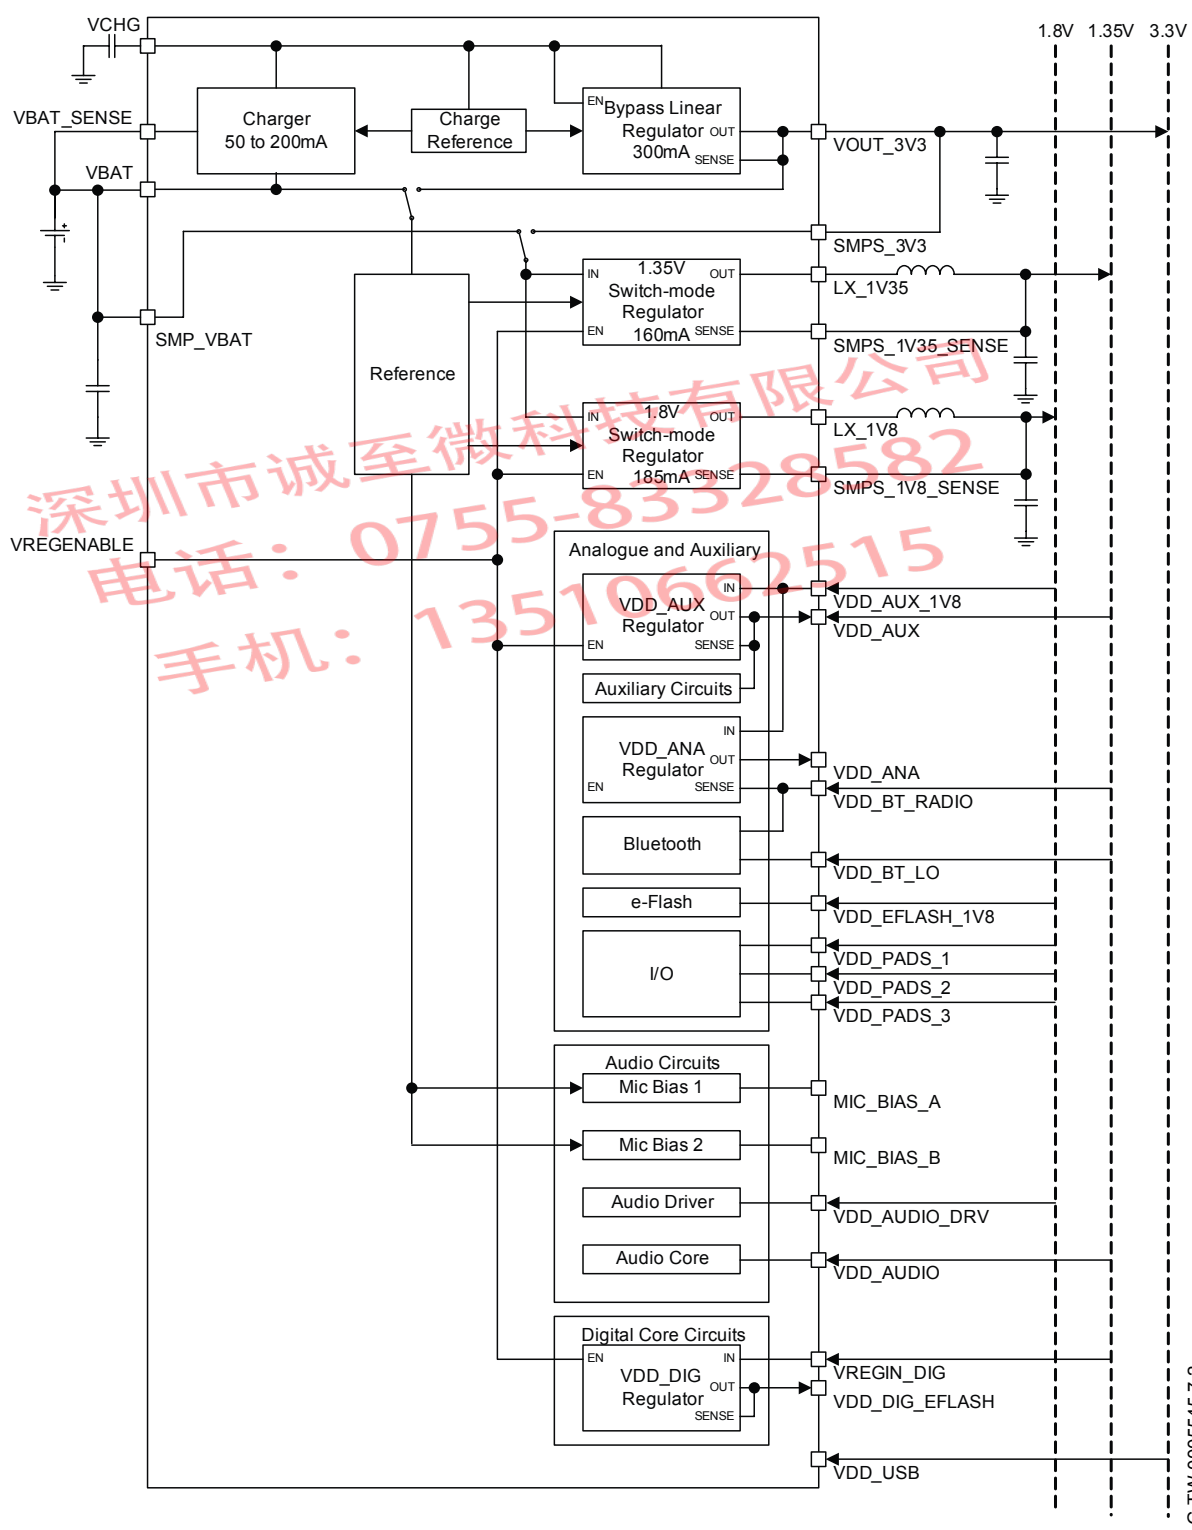

Figure 11.1: 1.80V and 1.35V Dual-supply Switch-mode System Configuration
- A 1.80V and 1.35V dual-supply rail system using the 1.80V and 1.35V switch-mode regulators, see Figure 11.1. This is the default power control and regulation configuration for the CSR8670 BGA.